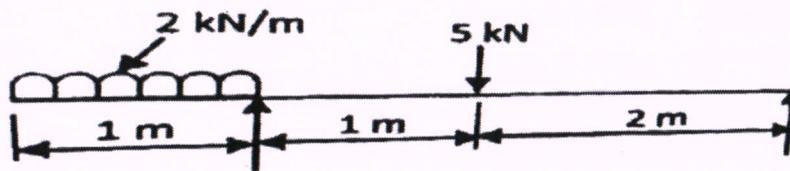

Fig. 6
- 4 a) Draw the shear force and bending moment diagram for the overhanging beam loaded as (10) shown in Fig. 6 and also locate the point of contra-flexure.